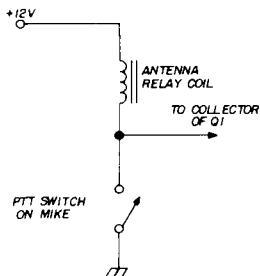

fig. 2. Push-to-talk circuit for the Regency HR-2A vhf fm transceiver.
1. The PTT circuit must be similar to that shown in fig. 2.